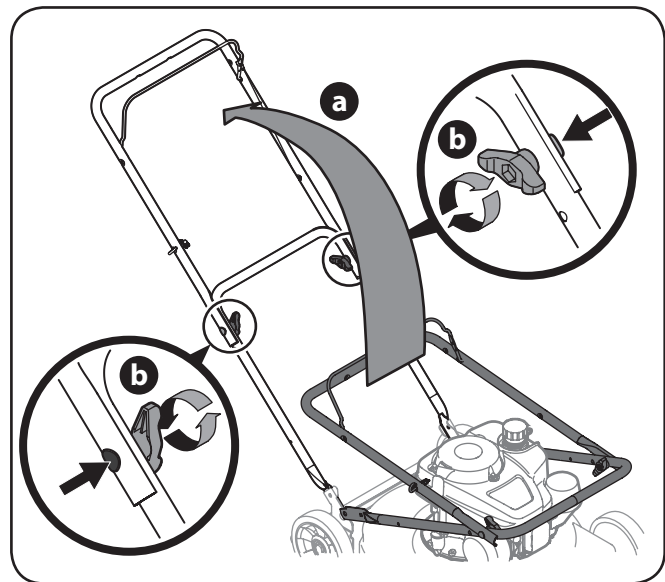

Figure 3-1
- While pushing in on both sides of the lower handle, pull up and back on upper handle as shown in Figure 3-1. Make certain the lower handle is seated securely into the handle mounting brackets. Do not crimp cable while lifting the handle up.